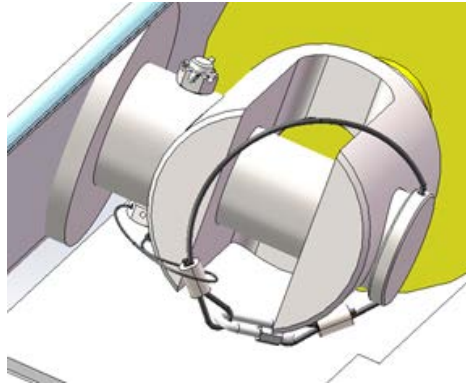

Figure 4: Cylinder clevis pin and anti-rotation slider
1. Wire the clevis pin (837-21-0) and anti-rotation slider on the tensioning cylinders (Figure 4).